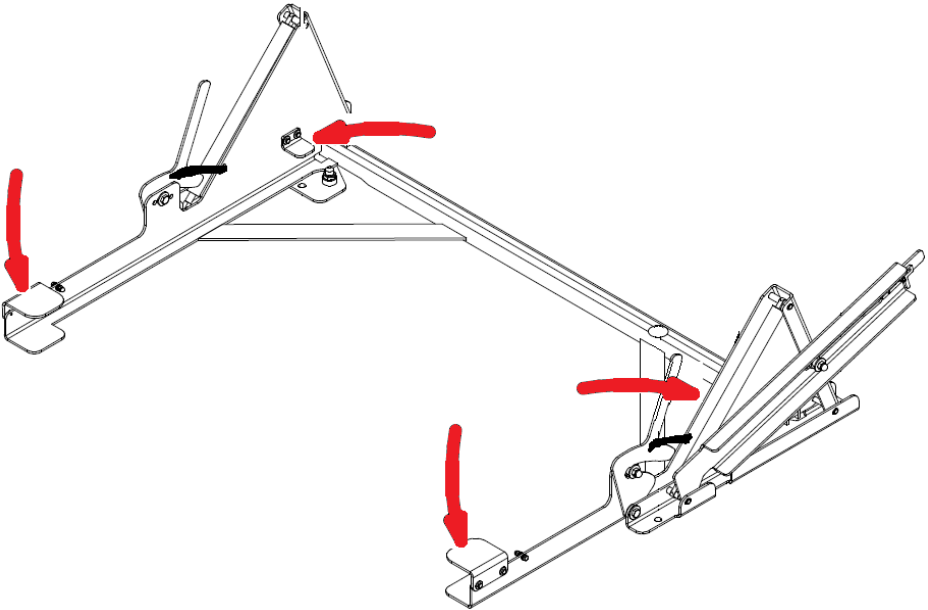

Fig.7. Elements to unscrew
2. Unscrew the construction limiters of the platform lifting system (Figure 7).